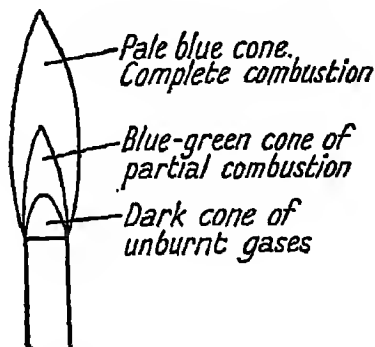

FIG. 107. The bunsen non-luminous flame.
**Expt. 148.** Light the bunsen and regulate the air-holes until the bunsen 'roars'. Reduce the amount of air a little until the bunsen just stops 'roaring'. Examine the flame and compare what you see with Fig. 107.